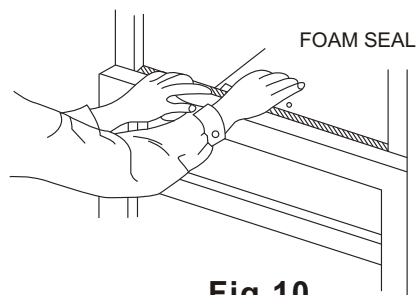

Fig.10
D.Cut Window sash seal foam and insert it in the space between the upper and lower sashes (Fig.10).